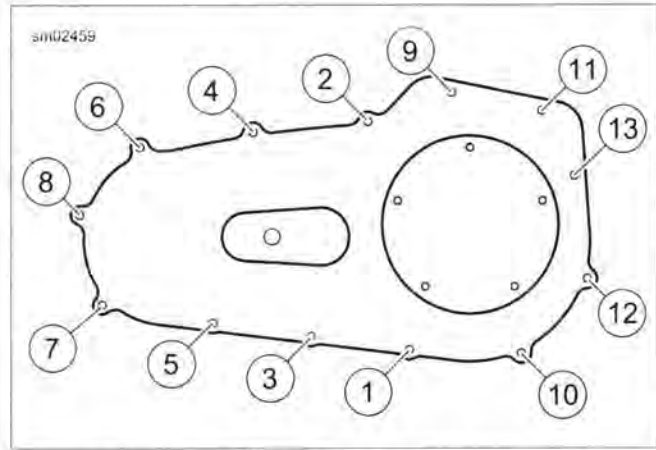

Figure 5-3. Primary Chaincase Cover Torque Sequence
5. See Figure 5-3. Tighten primary cover fasteners to 12-13 ft-lbs (16.0-17.6 Nm) in the sequence shown.